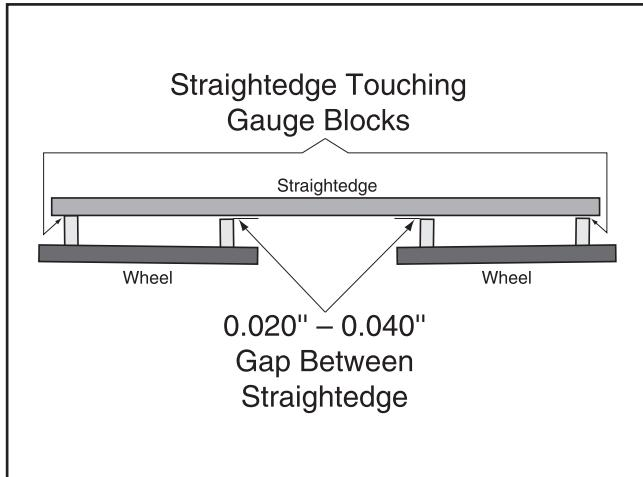

Figure 46. Overhead view of straightedge on blade wheel gauge blocks.
- If the wheels are properly aligned, the straightedge will touch both inside gauge blocks and there will be a 0.020"-0.040" gap between the straightedge and the outside gauge blocks, as shown in **Figure 46**. If this is the case, skip to **Step 9**.